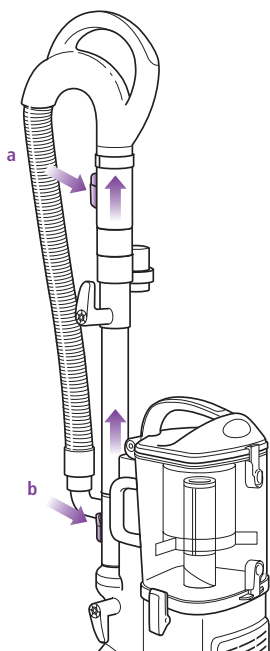

Fig. 12
- 2 Press the handle release button (a) and pull the handle up or press the extension wand release button (b) and pull the extension wand up. (Fig. 12)